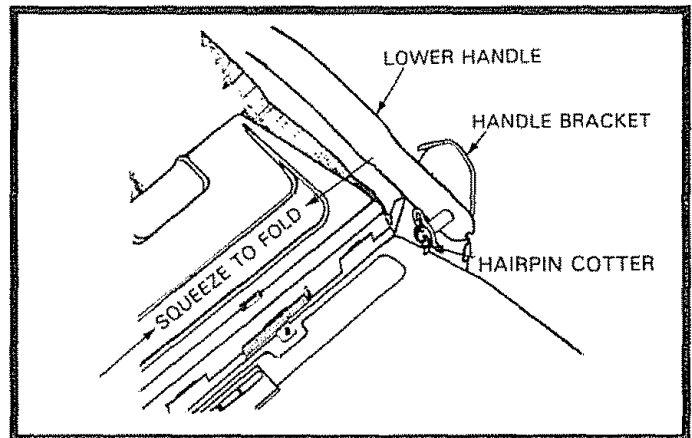

FIG. 16
- To fold, squeeze the bottom ends of the Lower Handle toward each other until the Lower Handle clears the Handle Bracket, then move Handle forward (See Fig. 16).